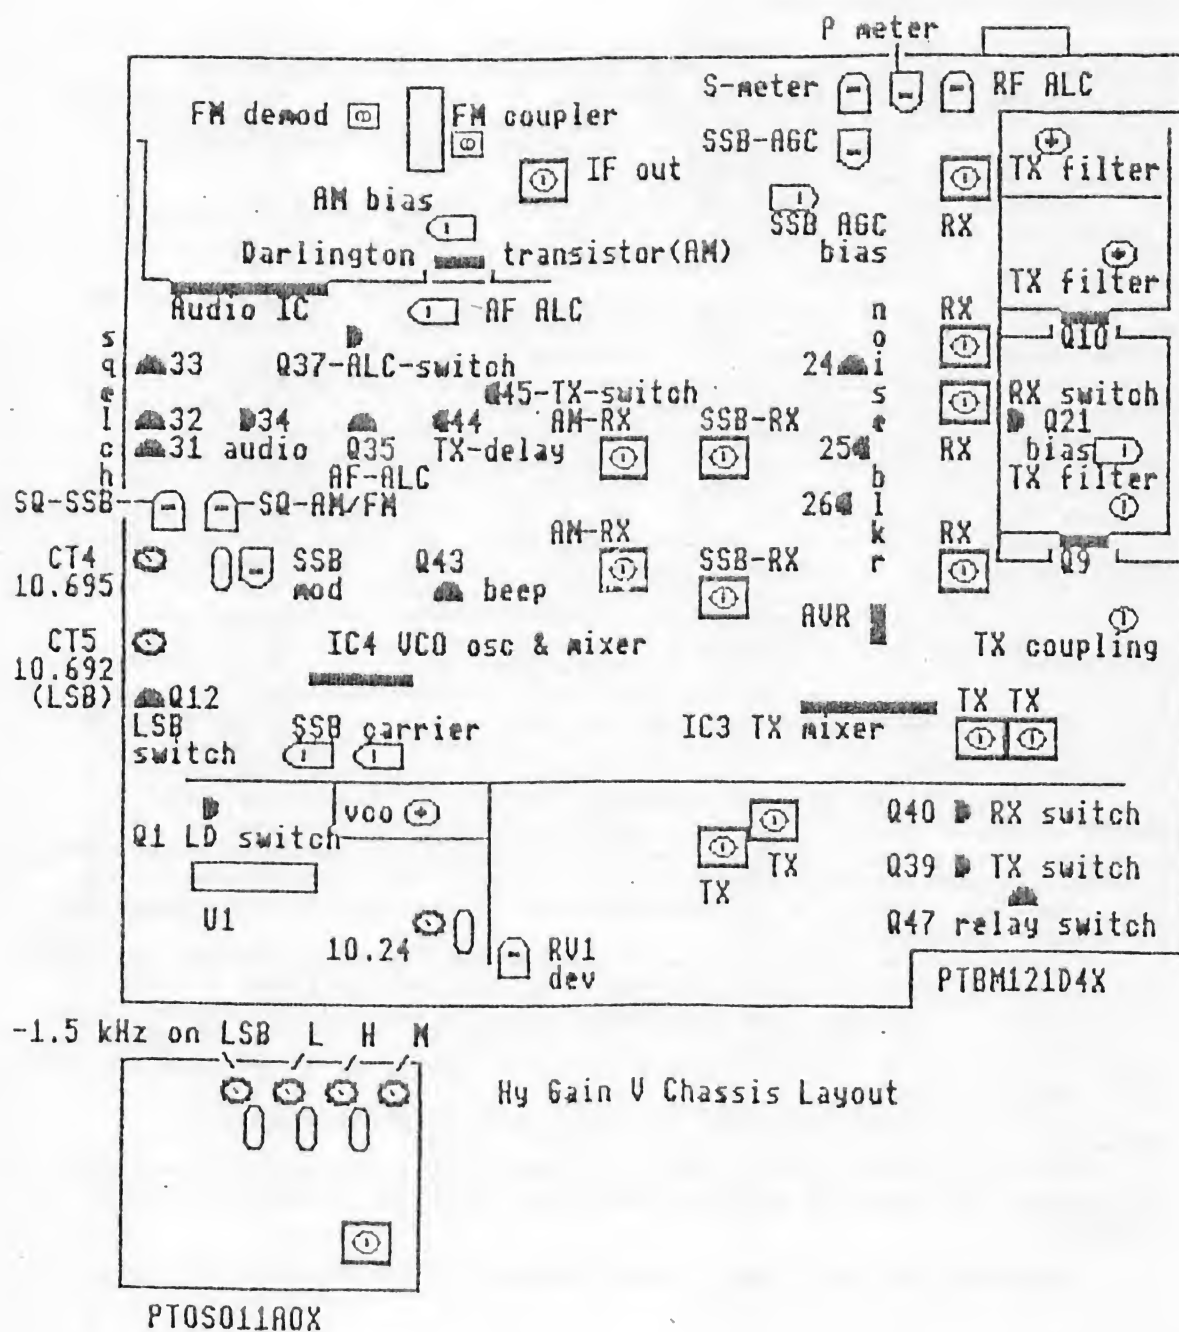

Fig. 25
This board is found in a number of multimodes, including the Hy-Gain V and the Concorde II (Fig.25). Some variation in the front panel controls and crystals is to be expected. In particular, whilst the two rigs mentioned use 20.555 (HI HI), 20.330 (HI), 20.105 (FCC) or 19.88 (Midn) crystals, other rigs use a frequency doubler circuit with crystals exactly half these values.
Fig.25 on the next page should help you to find the major items.